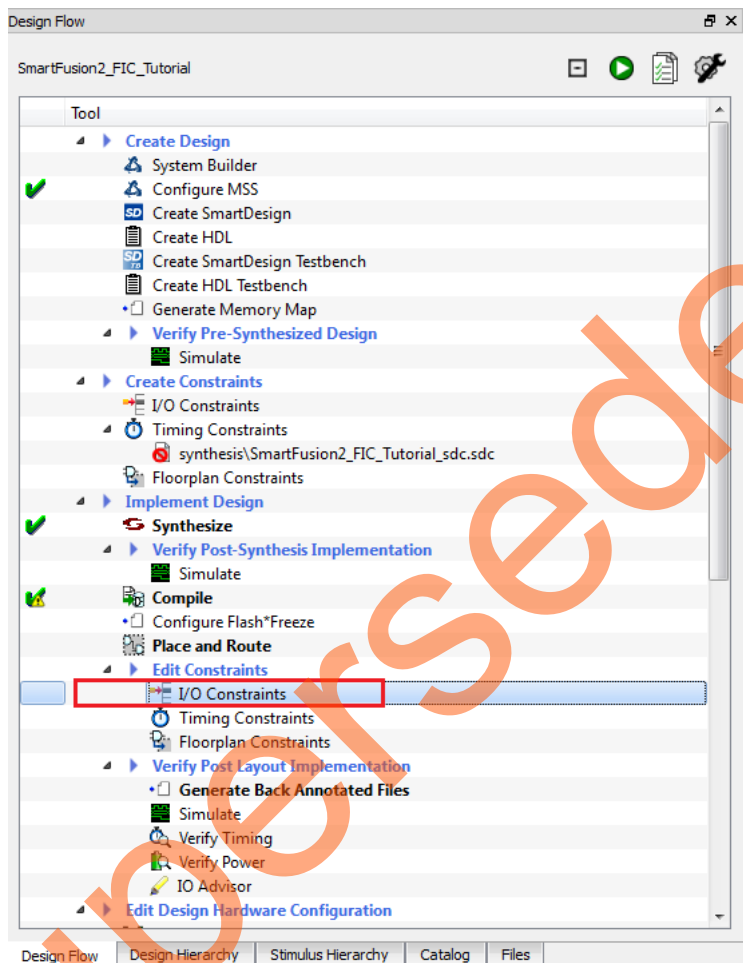

Figure 34 • I/O Constraints
1. Double-click **Edit Constraints > I/O Constraints** in the **Design Flow** window as shown in Figure 34. The **I/O Editor** window is displayed after completing Synthesize and Compile.